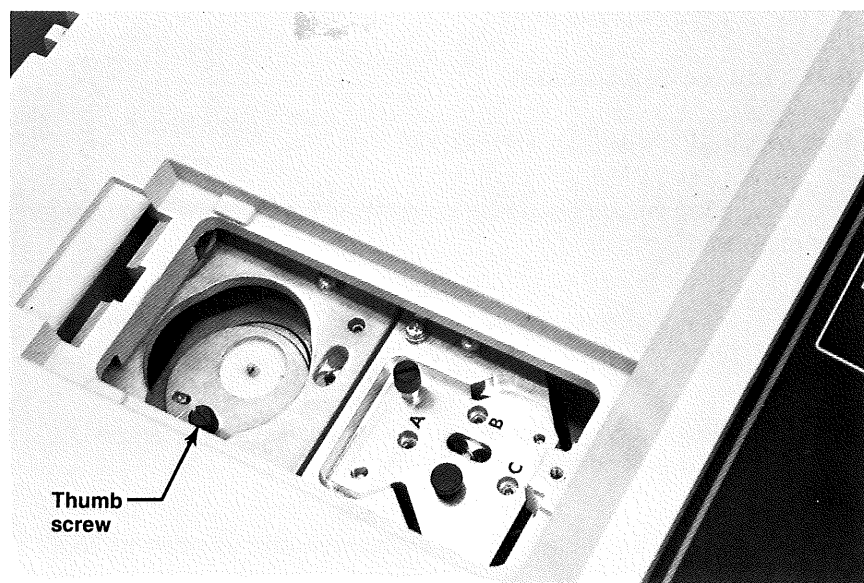

Figure 8-2.
3. Unscrew the thumb screw which holds the UV source in position. See Figure 8-2.